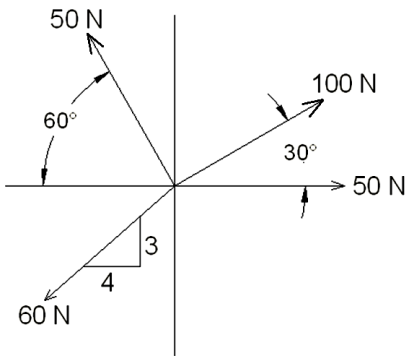

Fig.1 [ Q-1(b) ]
- (b) Determine the resultant of a force system shown in *Fig.1* by analytical method and check the answer by law of Polygon. **08**